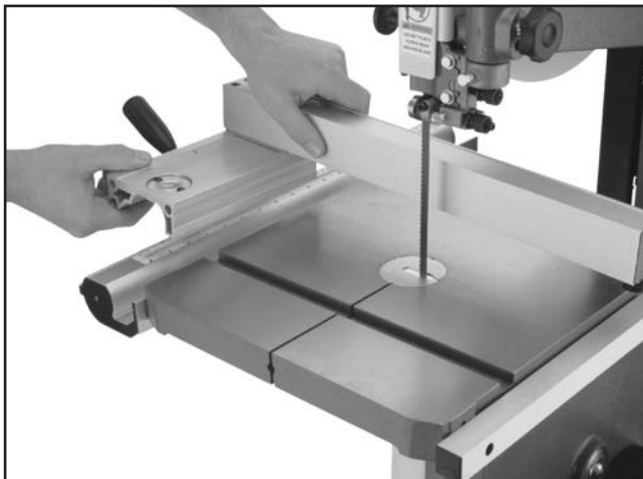

Figure 15. Installing fence onto rails.
18. Fasten rear fence rail to back of bandsaw with (2) M6-1 x 16 cap screws.
21. Pull fence handle up and place fence on the front fence rail, as shown in **Figure 15**.